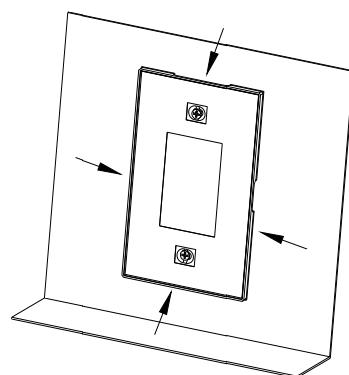

Fig. 2
3. Place all wires and connectors into the junction box before installing the lighting fixture (as shown in Figure 2).
Attention: When installing in outdoor or indoor humid environments, it is necessary to keep the installation position dry. To prevent water leakage inside the lamp, outdoor waterproof silicone (GE RTV-162 or other products of the same specification) must be used to fill the gap between the back of the lamp and the outer surface of the junction box (as shown by the arrow in Figure 2).